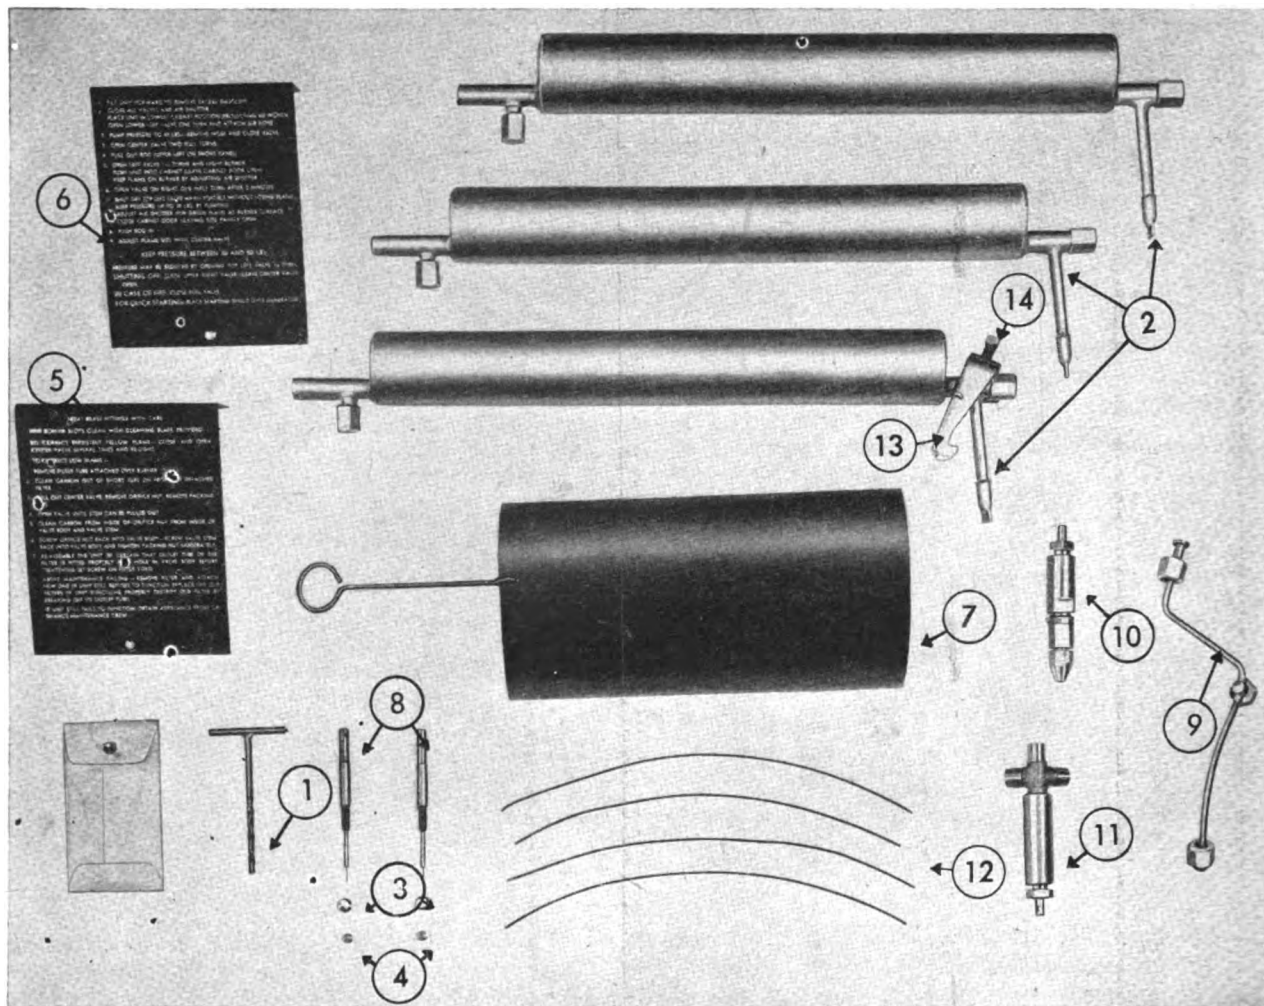

Figure 49. Components of set, conversion, No. 2 (simplified) (65-J-2377).
(2) Component parts (see fig. 49) of set, conversion, for unit, fire, range, field, M1937, set No. 2 (simplified) (stock No. 65-J-2377):